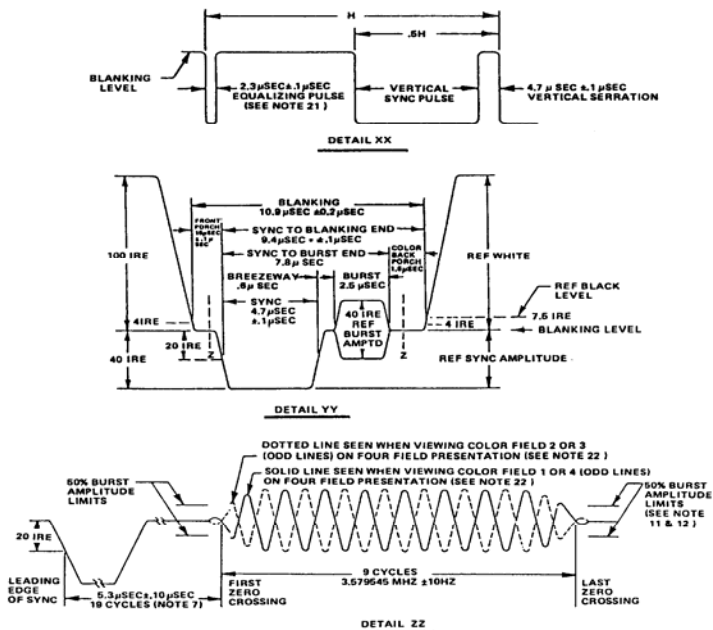
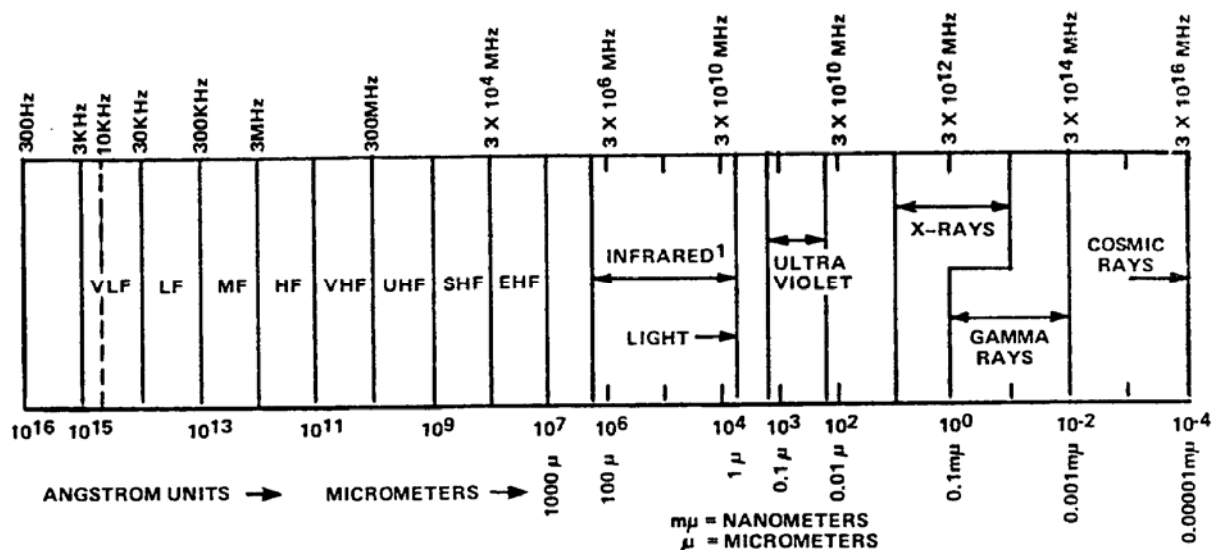

Figure S-5. Vertical and Horizontal Interval (part two)
Figure S-6. Radiant Energy Spectrum
a. As shown in Figure S-6, light which is useful to the eye occupies only a small portion of the radiant energy spectrum. Sound is located at the lower end of the spectrum; cosmic rays are at the upper end. Light falls just beyond the middle of the spectrum. Along the top of the spectrum illustrated in Figure S-5 is the frequency scale, and along the bottom is the angstrom unit scale.